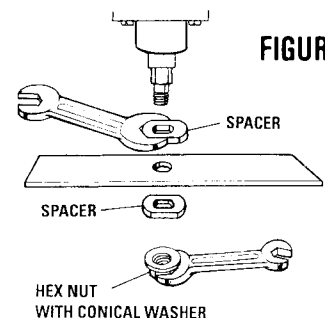

FIGURE 7
2. Loosen the hex nut with conical washer. Use two wrenches to keep the shaft from turning, as shown in Figure 7.
2. Holding the spacer in place, put the blade on the shaft, as shown in Figure 7.